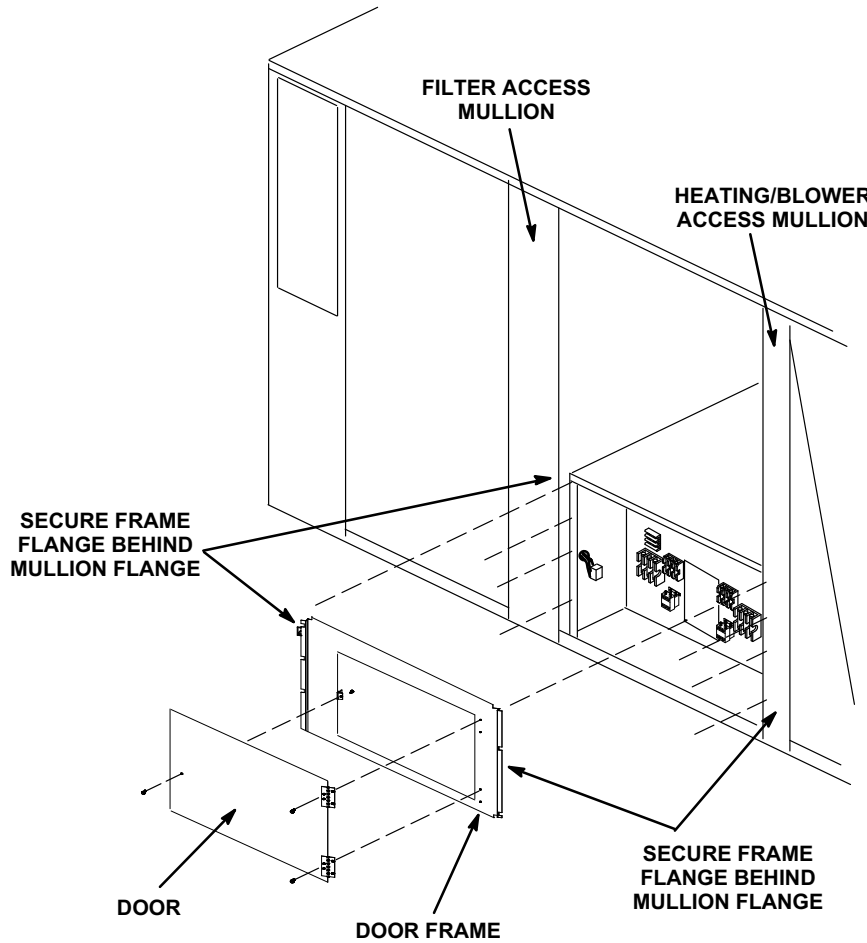

FIGURE 7
- 1- Secure door frame on inside of filter access and heating/blower access mullions. Use existing screws. See figure 7.